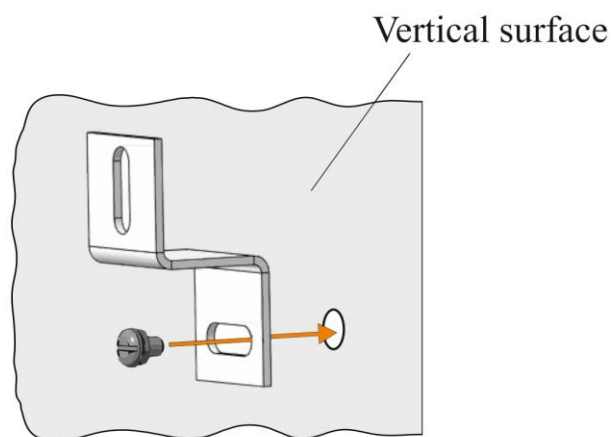

Figure 7 – Screw mounting brackets onto the vertical surface
- 2) screw mounting brackets onto the vertical surface using standard screws according to Figure 7;